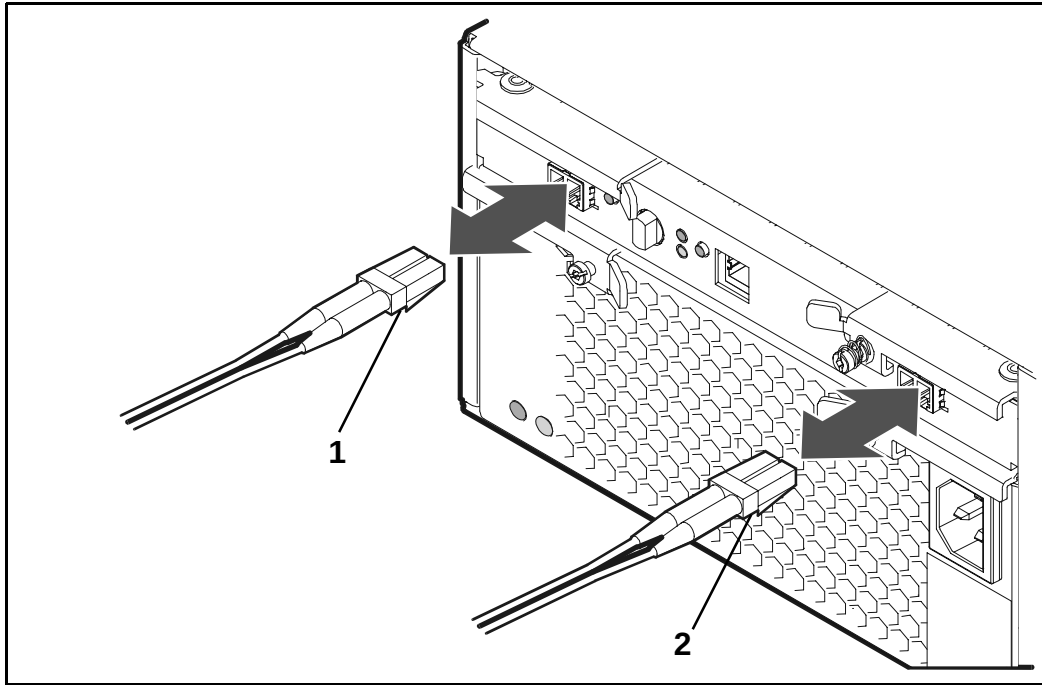
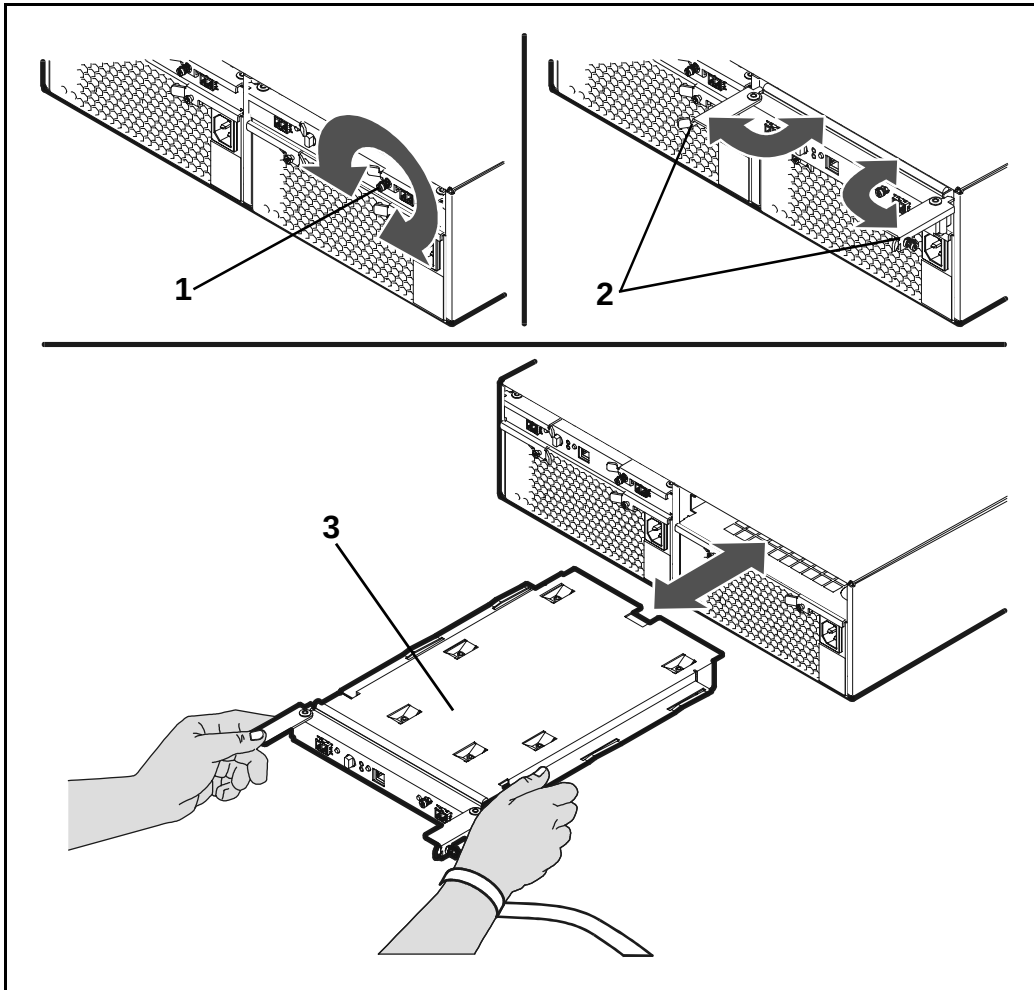

Figure 41 Removing and Replacing LCC Fiber Optic Cables
Figure 42 Removing & Replacing an LCC
1. Remove the fiber optic cables (Figure 41, 1 and 2).
2. Loosen the cam lever screw (Figure 42, 1) with a T-10 driver or flat-blade screwdriver.
3. Pull out both cam levers (2) at the same time.
4. Pull the LCC (3) out of the slot.
1. Pull out both cam levers (Figure 42, 2).
2. Push the LCC (3) firmly into the slot.
4. Tighten the cam lever screw (1).
5. Replace the fiber optic cables (Figure 41, 1 and 2).